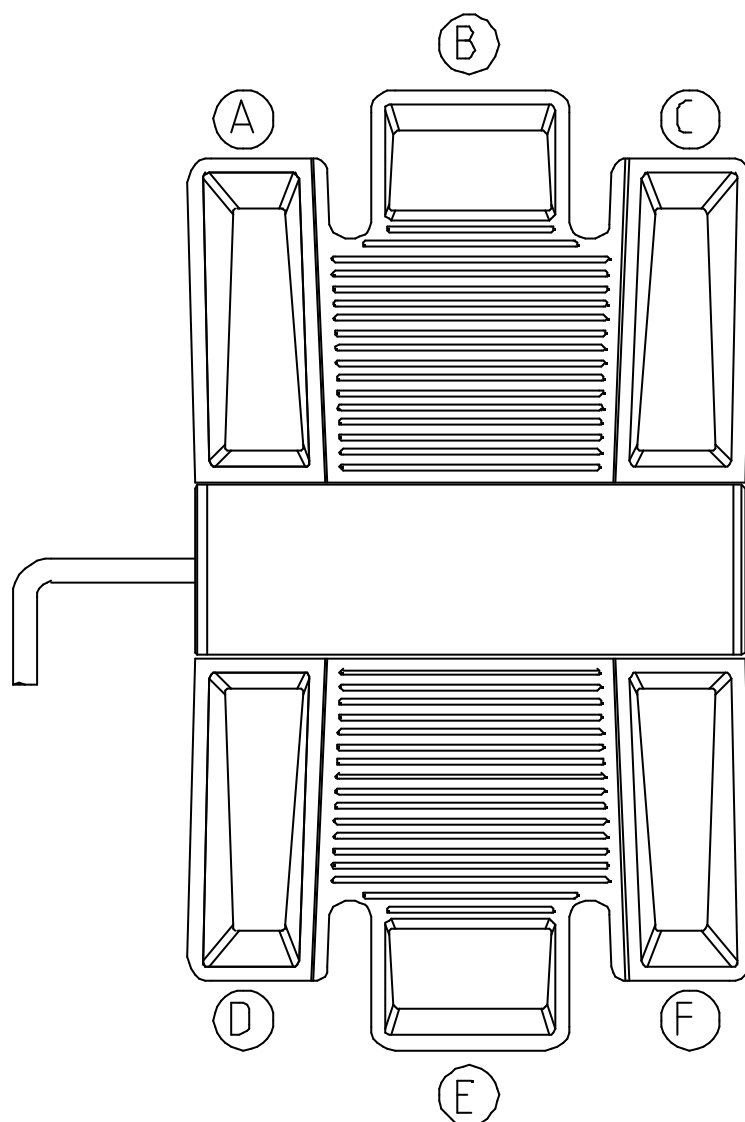

Figure 10 Using the foot controls
1. The foot control enables the surgeon to focus the microscope, change the magnification level and change the light intensity by depressing pedals, thus enabling both hands to be kept free for surgery. Refer to figure 10.